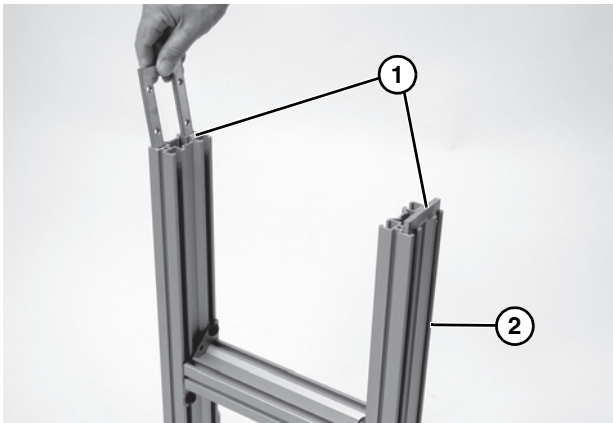

Figure 9
- Install u-nuts (Figure 9, item 1) into outer t-slots of stand legs (Figure 9, item 2).